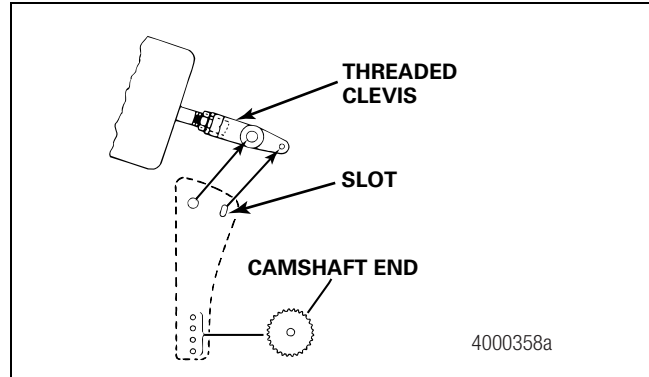

Figure 7.20
- If the small clevis hole doesn't align within the slot: Adjust the clevis until you can see the small clevis pin hole within the slot. Figure 7.20.